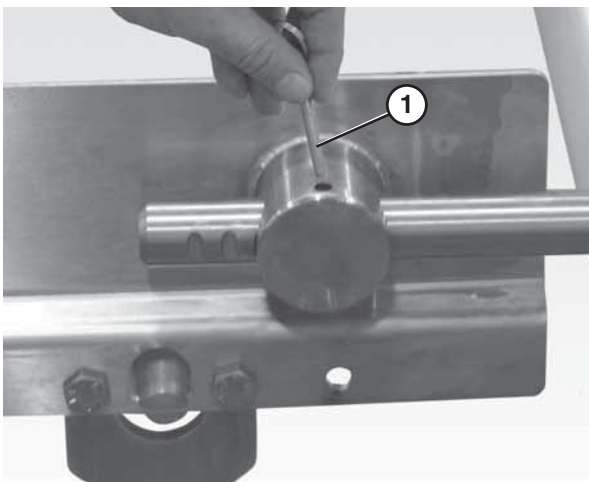

Figure 48
10. Insert the pull pins (**Figure 48, item 1**) on the tension end of the conveyor.